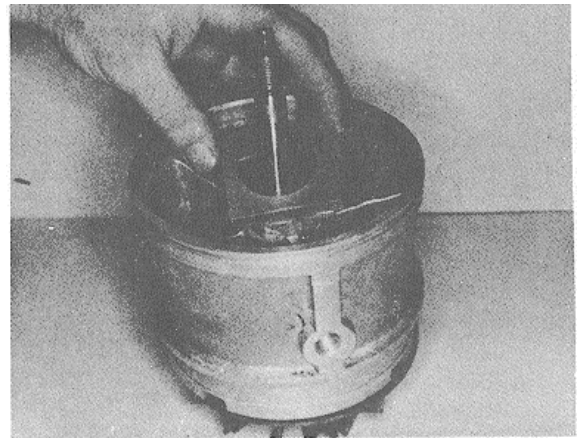

Fig. 10-27, T-435. Installing teflon bearing insert
7. Position Teflon bearing insert over flange of floating bearing. Fig. 10-27.